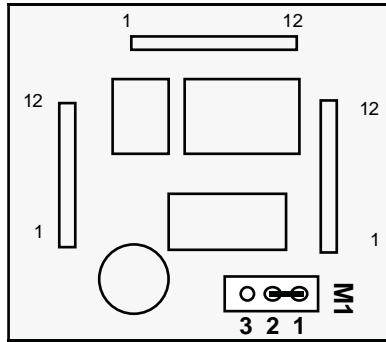

Figure 4-3 RMS option board
**With the RMS option, jumper M1 on the RMS option board must be in position 1-2, as shown in Figure 4-3.**